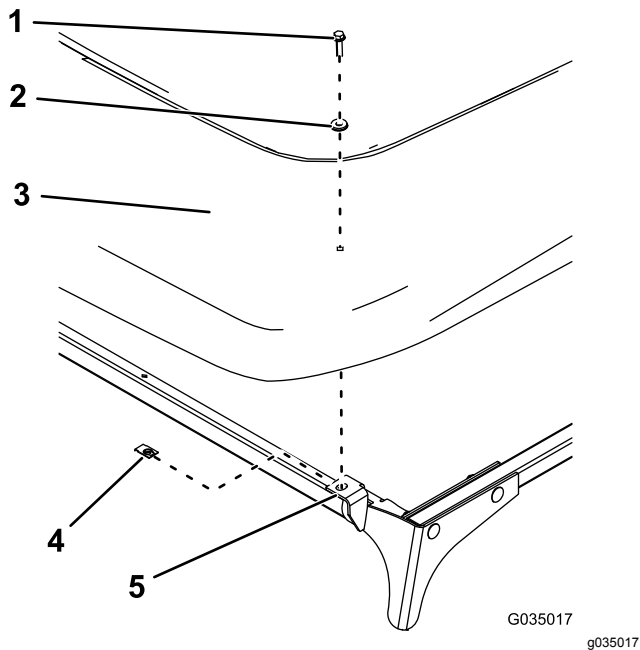

Figure 15
17. Install the sunshade to the front plates using 2 clips, 2 sealing washers, and 2 hex-flange bolts (1/4 x 1 inch) as shown in Figure 15.